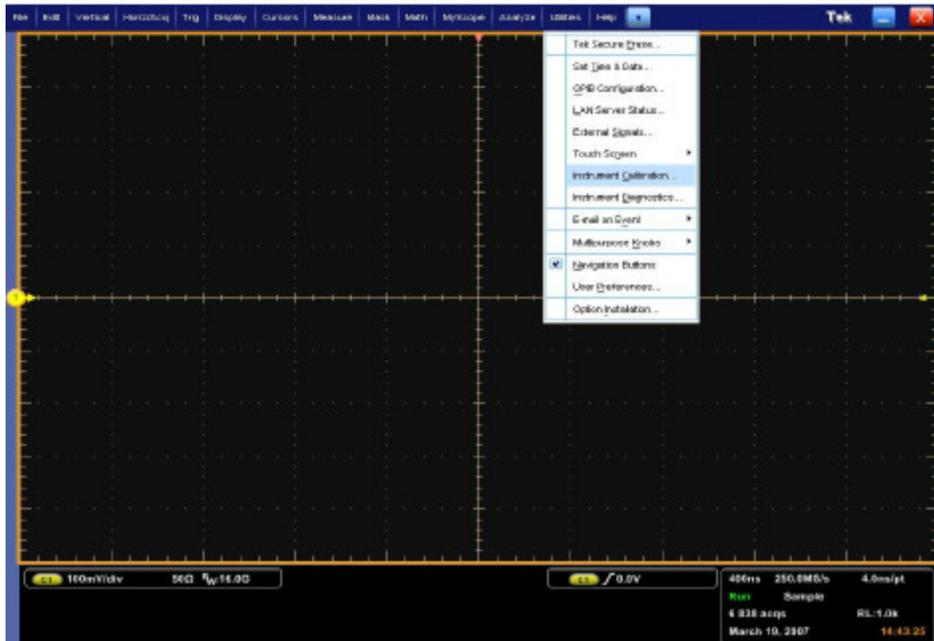

Figure 32. Select Calibration Menu
15. Click on “Acquisition” tab. Refer to Figure 32.
26. Click on "Acquisition" tab. Refer to Figure 32.